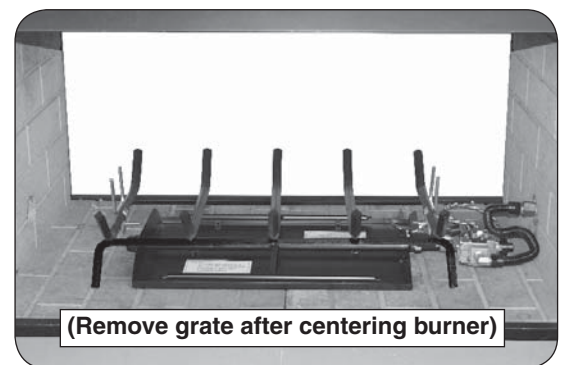

Fig. 17-3 Position grate
2. Position the grate over the burner pan (in fireplace). Ensure the assembly is centered from left to right. See Fig. 17-3.